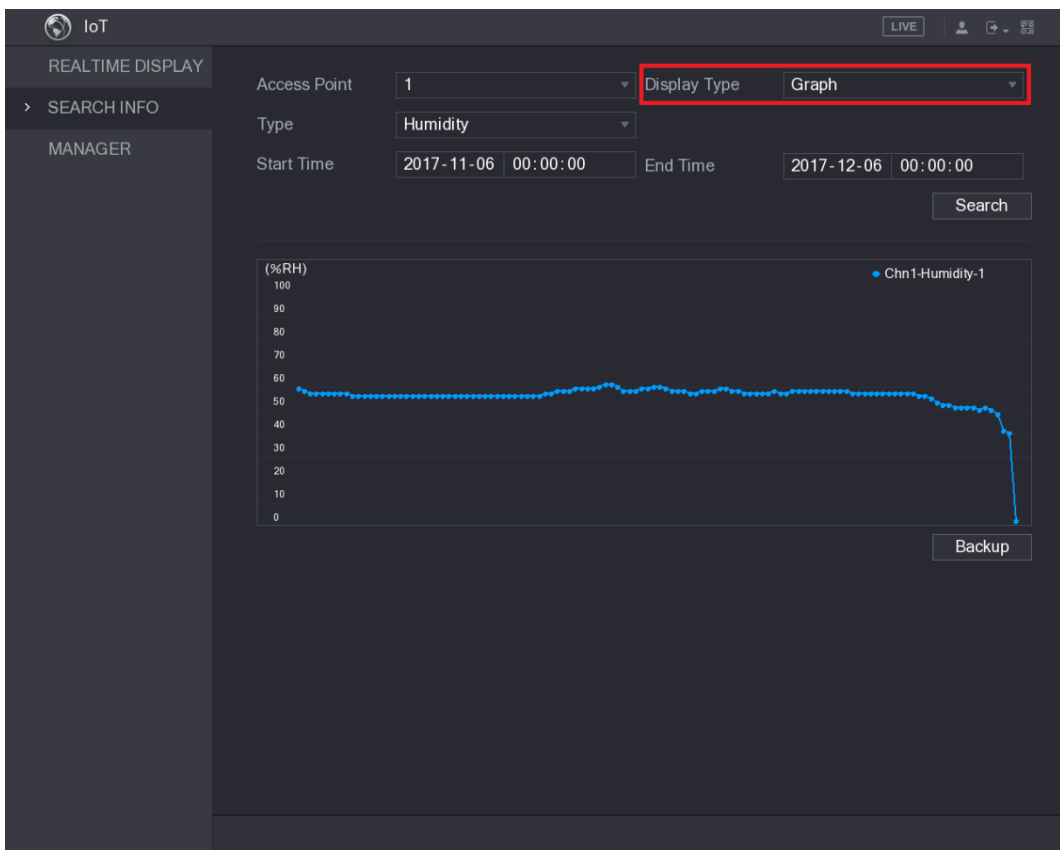

Figure 5-184
- For the data displayed in graph, see Figure 5-184.